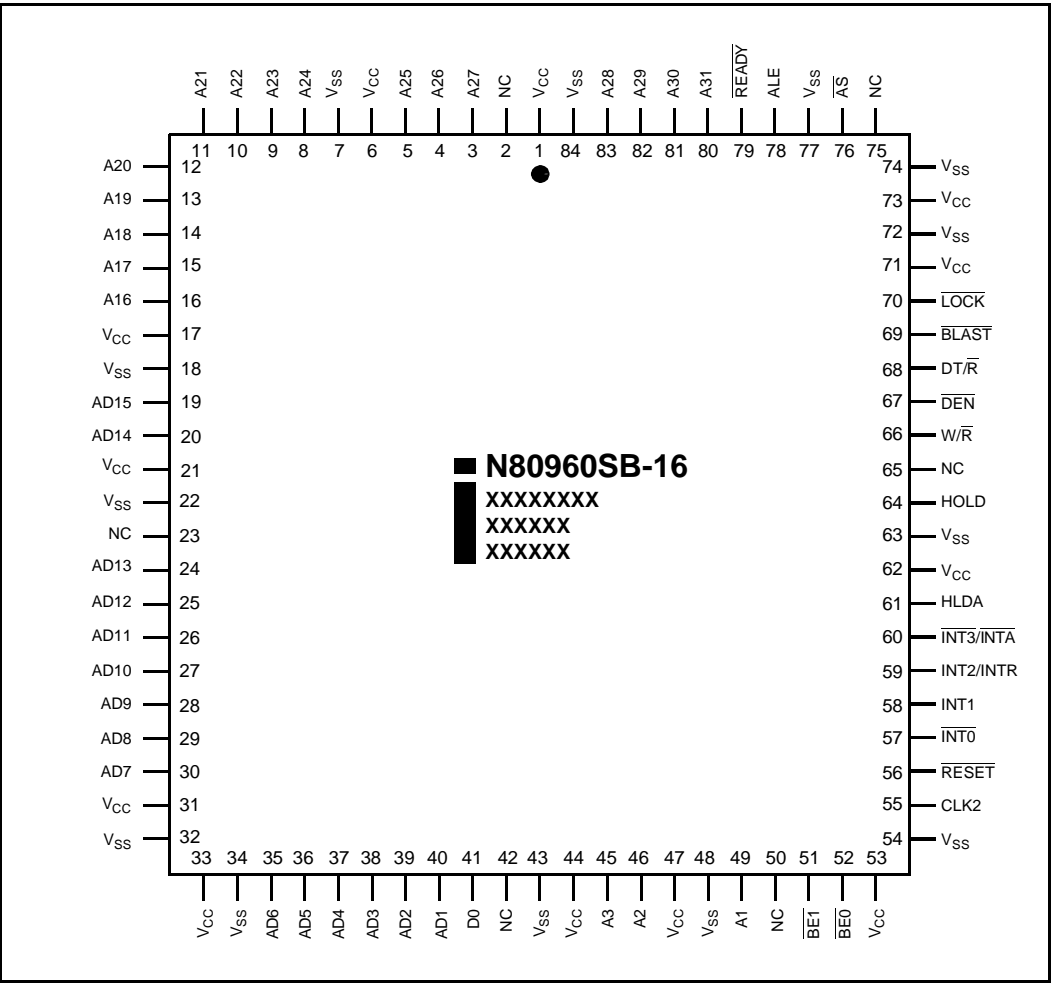

Figure 16. 84-Lead Plastic Leaded Chip Carrier (PLCC) Package
- 84-lead plastic leaded chip carrier (PLCC). Shown in Figure 16.